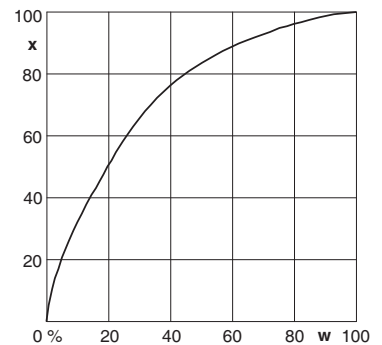

Fig. 4.3
4.3 "Inverse equal perc.": Results in an inversely equal percentage characteristic line with a position ratio of 50:1 for a valve of linear characteristic. See Fig. 4.3